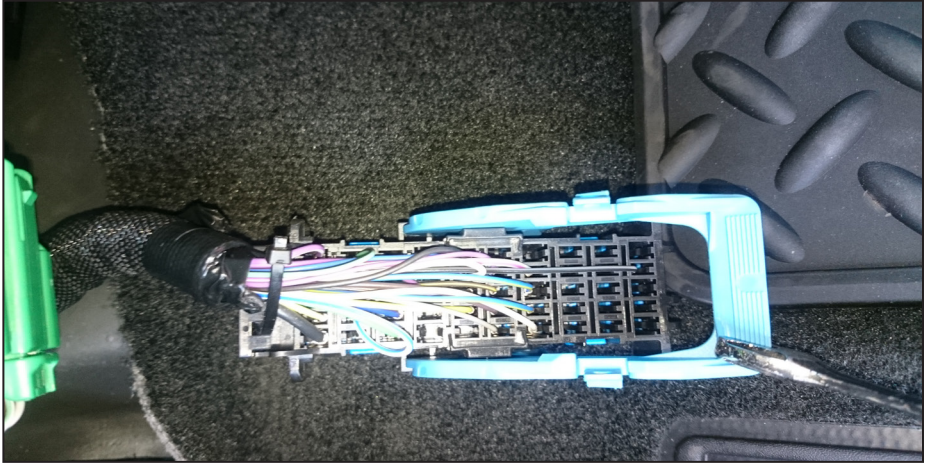

Figure 41 — ICEM connector
- There are 2 electrical connectors on the rear of the ICEM assembly. Squeeze the 2 tabs and rotate the locking lever on the passenger side connector to remove it from the ICEM module (Figure 41).